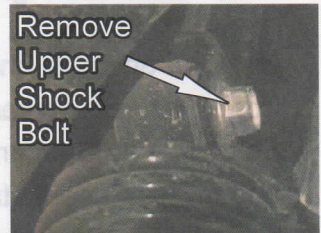

Fig.1
2. Now on one side, remove the Top shock bolt (see Fig.1) and pull the shock back out of the way.